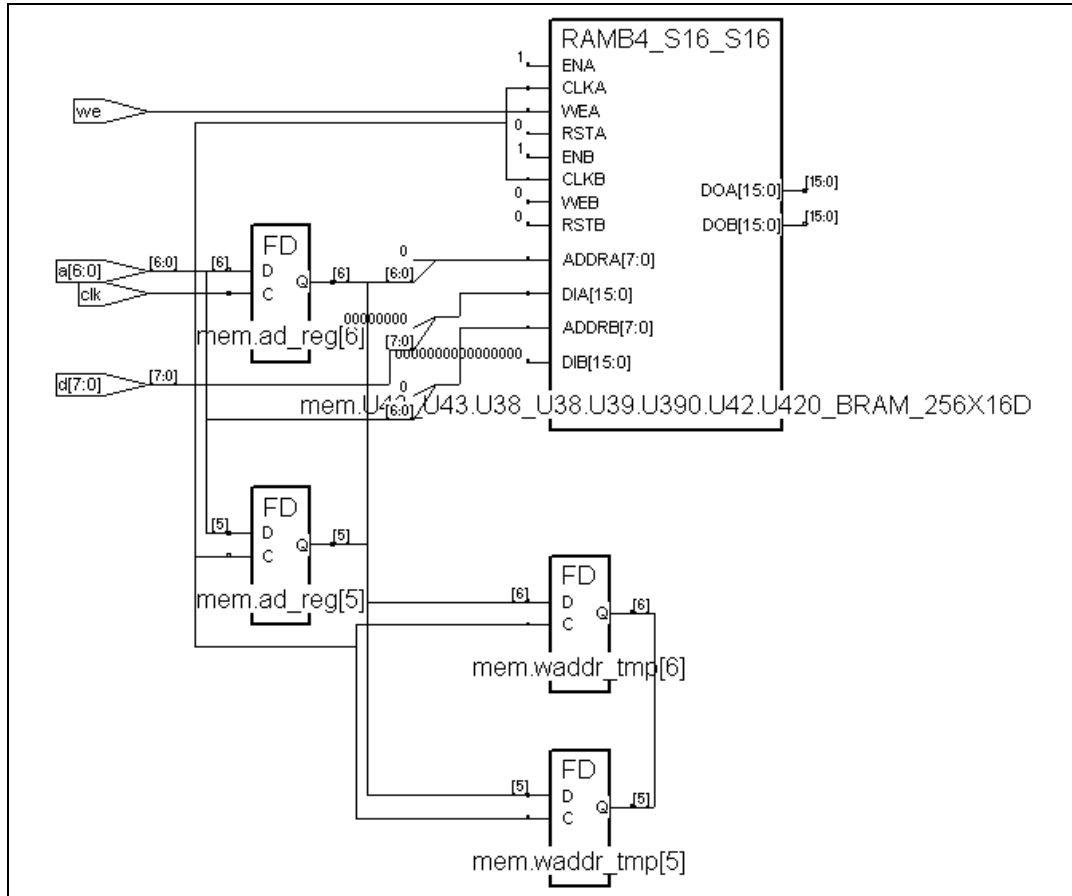

Figure 11: Filtered RTL view of Level 1
- Level 1 in the above figure shows the two parallel FD registers on the left. This stage stores memory read and memory write addresses as shown in the figure Figure 11: Filtered RTL view of Level 1 on page 15.